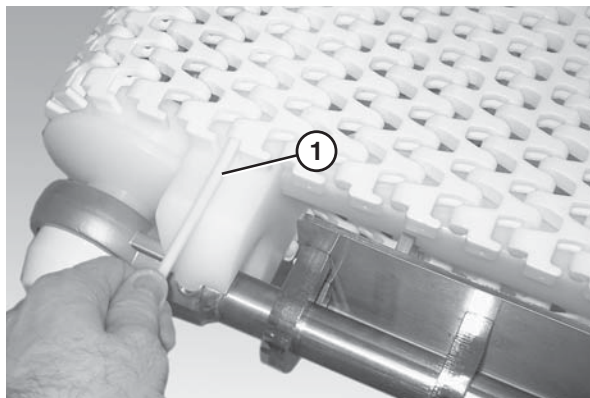

Figure 33
4. Insert the belt rod (Figure 33, item 1).